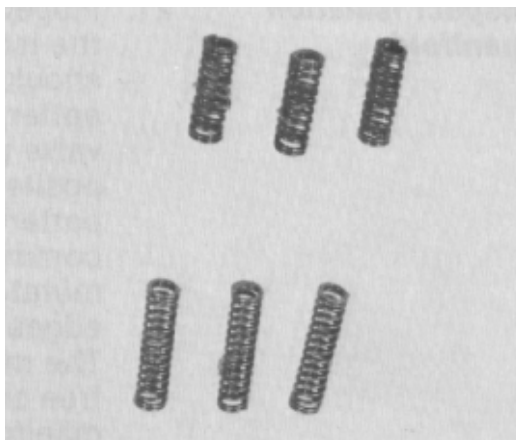

Figure 54
15. Inspect the springs for bent or distorted coils. If a spring is broken or deformed, all six springs in the unit must be replaced (Fig. 54).